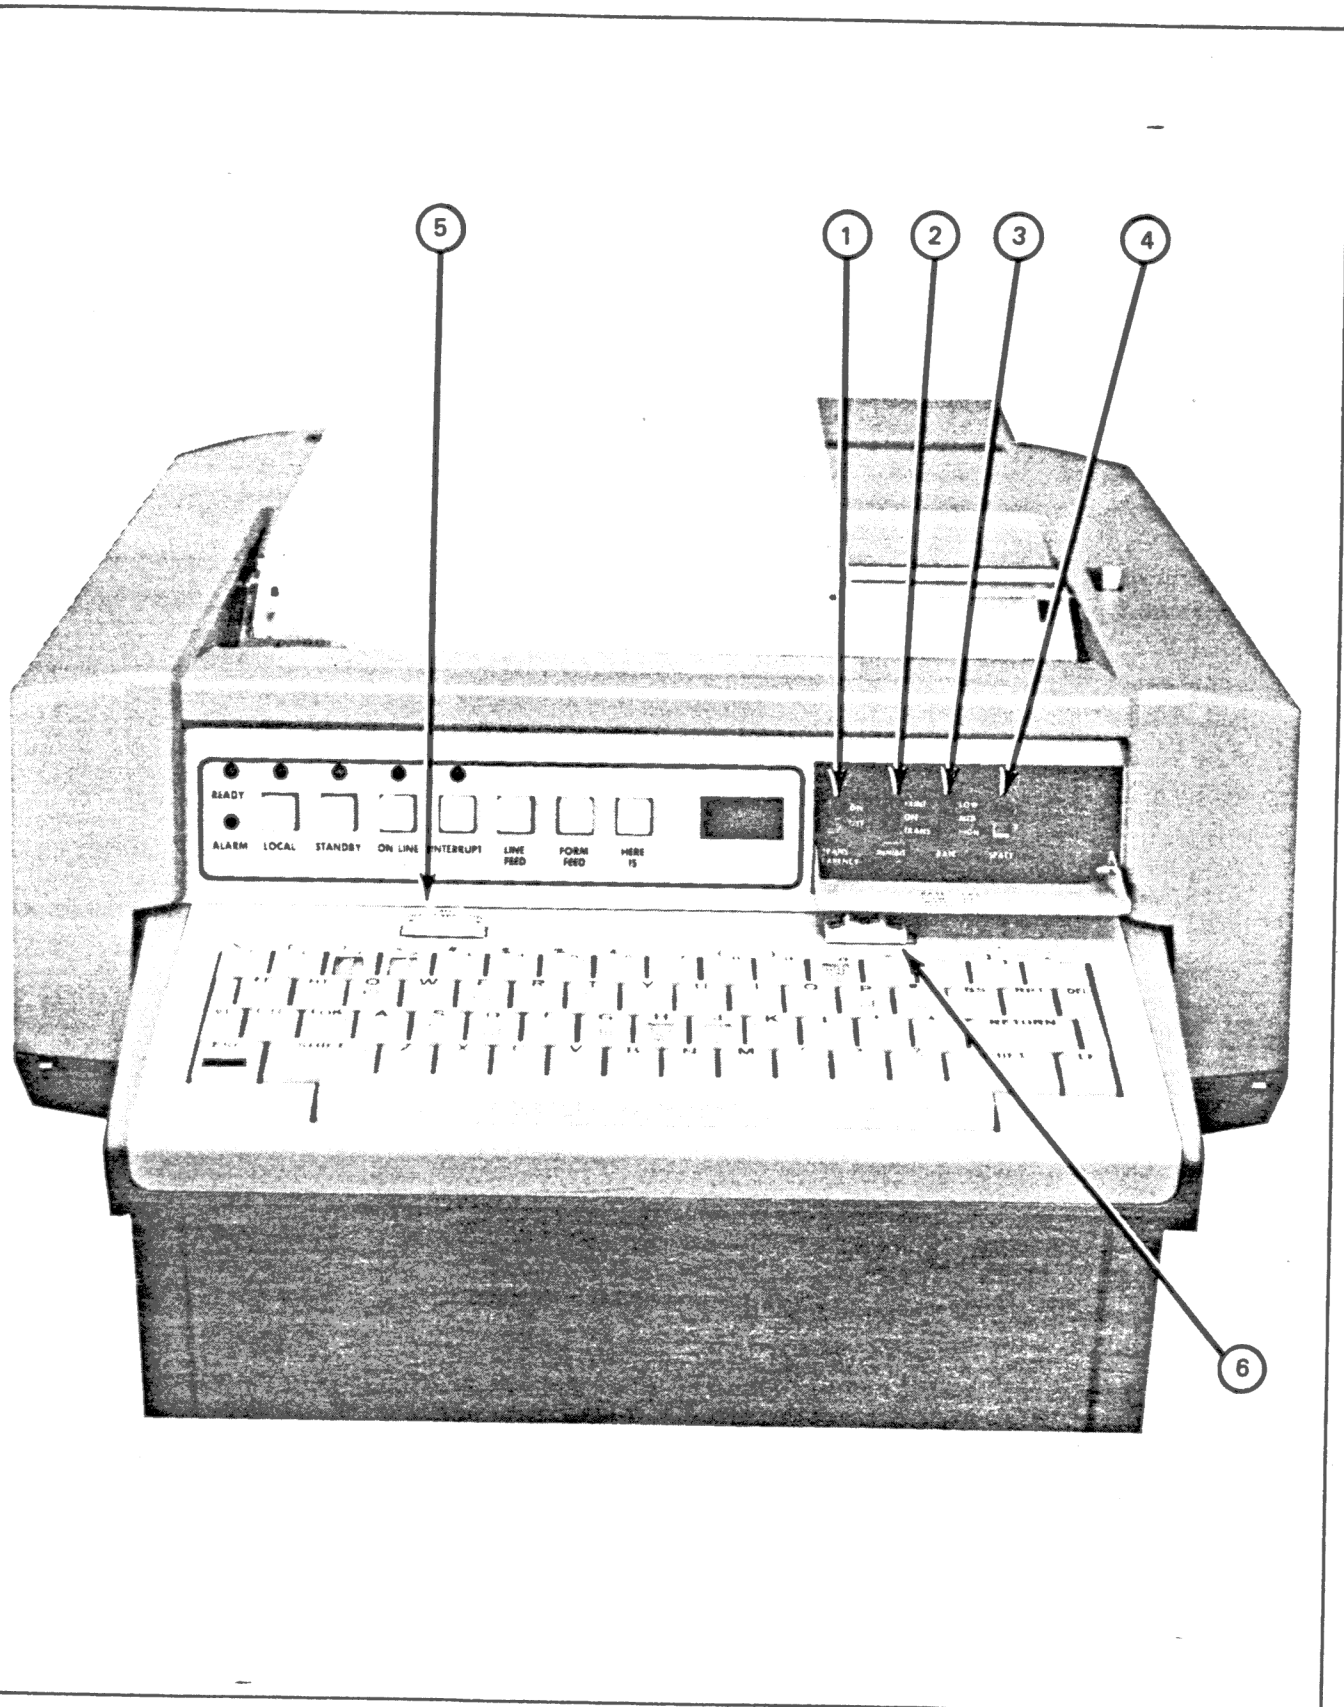

Figure 4. Printer, Controls and Indicators
2.04 The printer provides operator interface for the secondary ITS System. Commands and data are entered on the keyboard by the operator. The printer provides a hard copy of all data entered on the keyboard and the main traffic report. In addition, the printer duplicates all error messages displayed on the CRT. Controls and indicators of the printer are illustrated in Figure 4. Switch settings are listed in Table 3.